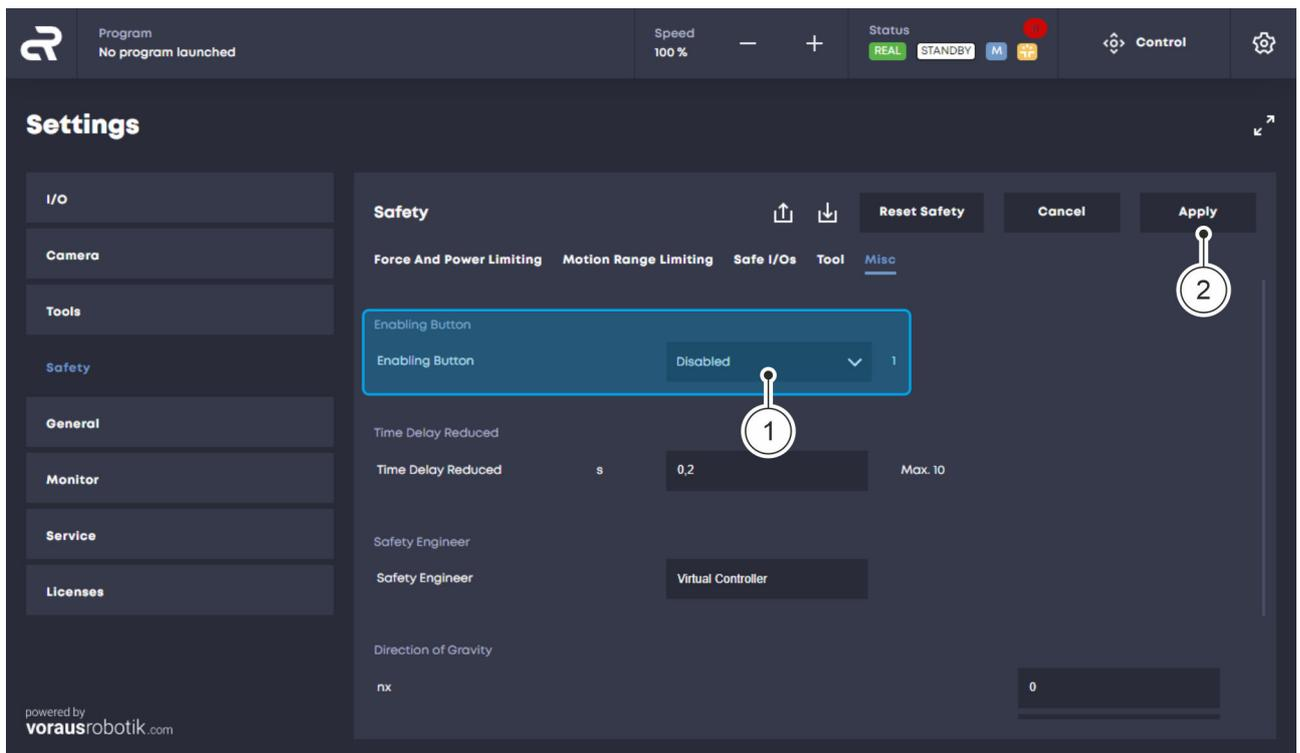

Fig. 39 Switching off the enabling function
- 04. In the drop-down list, select the menu item 'Disabled' Fig. 39/①.
- 05. Click the 'Apply' button Fig. 39/②.